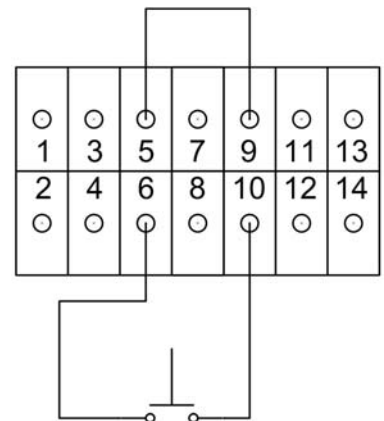

Figure 14. 12VDC Internal
- Connect the green jumper wire (supplied) to terminals 5 & 9 (see Figure 14).